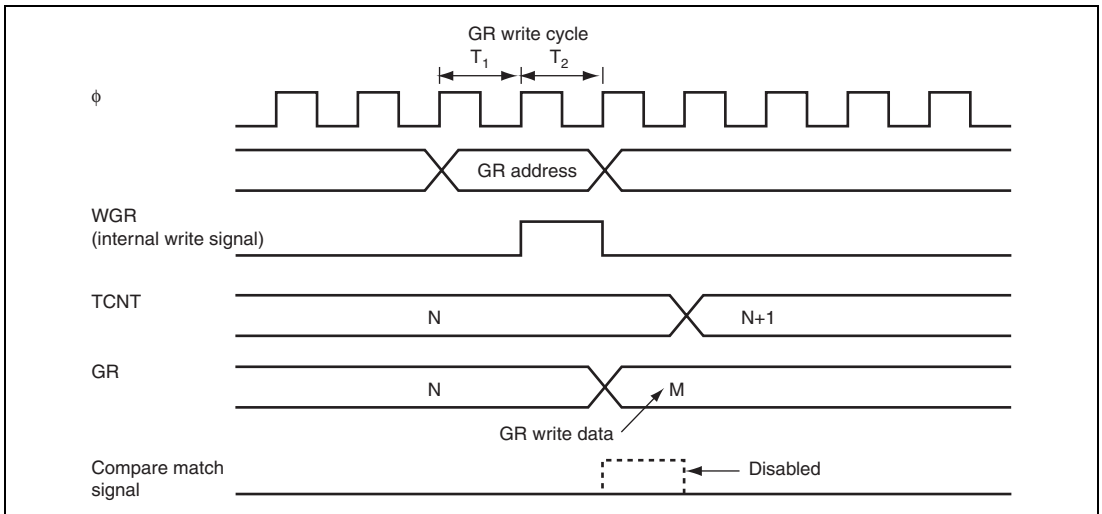

Figure 14.54 Contention between GR Write and Compare Match
3. Contention between GR Write and Compare Match: If a compare match occurs in the T_2 state of a GR write cycle, GR write has priority and the compare match signal is disabled. Figure 14.54 shows the timing in this case.